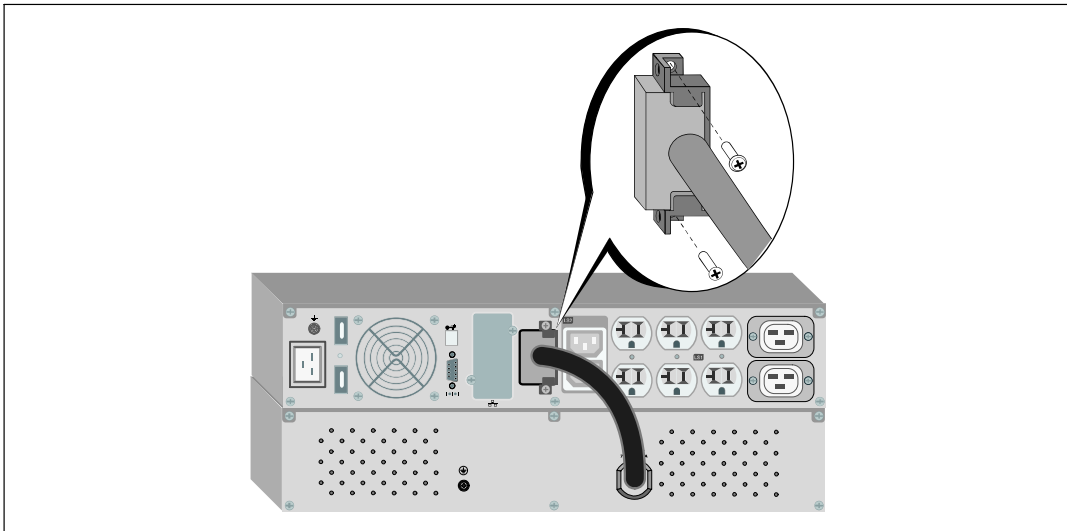

Figure 28. EBM Installation for 1920–2700W UPS Models Only
- 3 Plug the EBM cable into the UPS battery connector (see Figure 28).